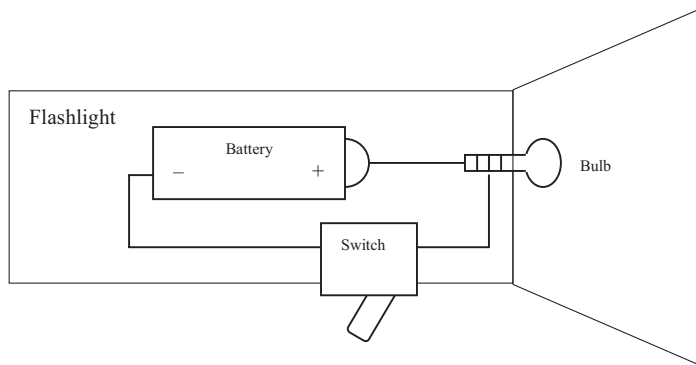

Figure 3-38: Simple flashlight [3-15]
2. [a] Given the simple flashlight shown in Figure 3-38, draw a corresponding schematic diagram.